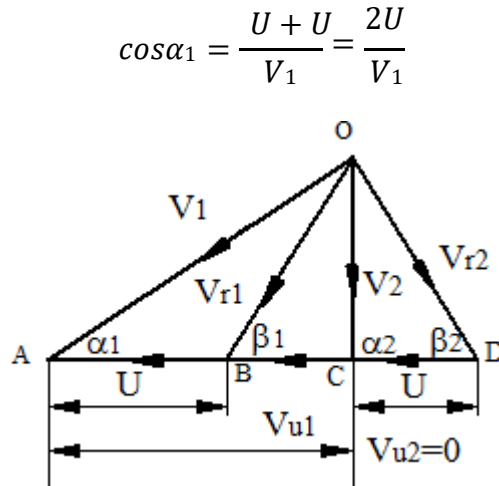

Fig. 3.13 Velocity diagram of an axial flow impulse turbine for maximum utilization
**Answer:** The velocity diagram of an axial flow impulse turbine for maximum utilization is as shown in figure 3.13. For an axial flow impulse turbine  $V_{r1}=V_{r2}$  and  $\beta_1=\beta_2$ .
From impulse turbine velocity diagram for maximum utilization (Fig. 3.13)